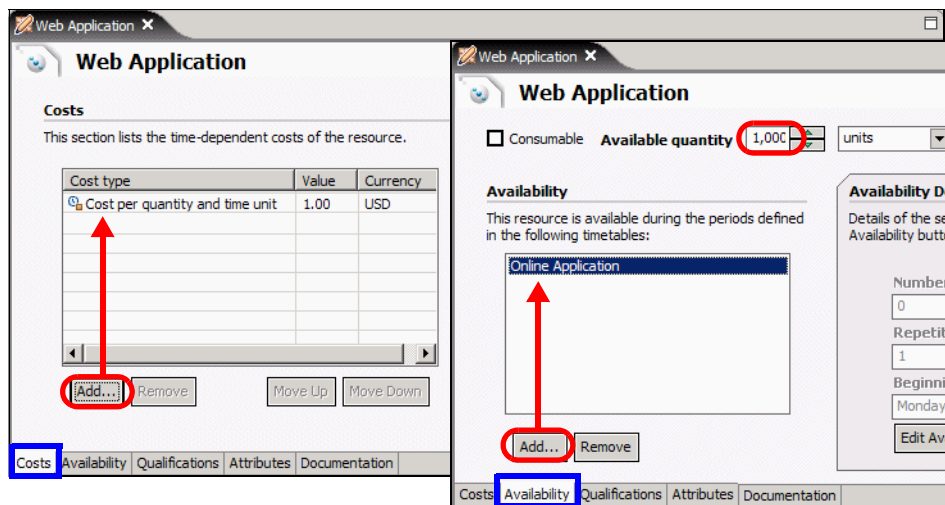

Figure 7-6 Web Application bulk resource cost and availability
- ▶ Populate the Web Application resource with the cost (Figure 7-6):